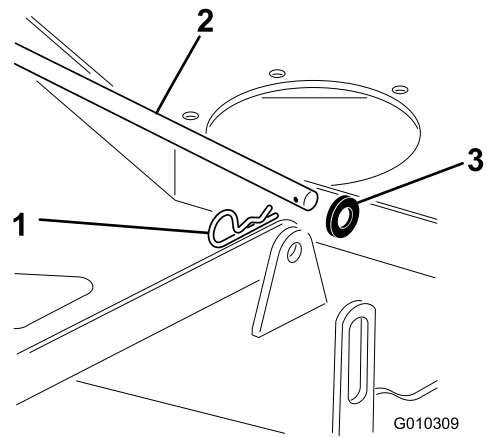

Figure 69
1. Remove the hair pin cotter and washer securing the long, link bar to the frame and deck; remove the link bar (Figure 69).
8. Install the long, link bar through the frame hanger and deck. Secure the link bar with the hair pin coppers and washers removed previously (Figure 69).